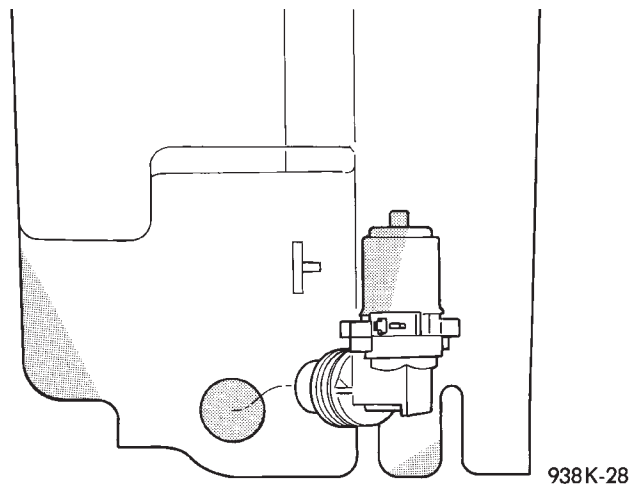

Fig. 23 Washer Pump
(1) Remove liquid from reservoir.
(2) Disconnect battery terminals. Remove battery and tray.
(3) Disconnect electrical lead and rubber hose from bottom of pump.
(4) Remove two reservoir retaining nuts and screw, then remove reservoir.
(5) Gently pry pump away from reservoir and out of grommet. Care must be taken not to puncture reservoir (Fig. 23).